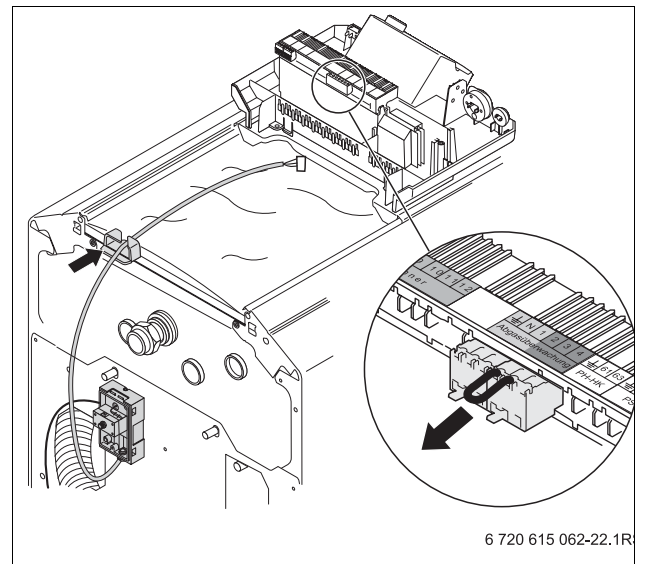

Fig. 28 Routing the flue-gas safety temperature limiter and burner cables above the insulation to the control panel
- Remove blind connector from "Abgasüberwachung" Fig. 28.